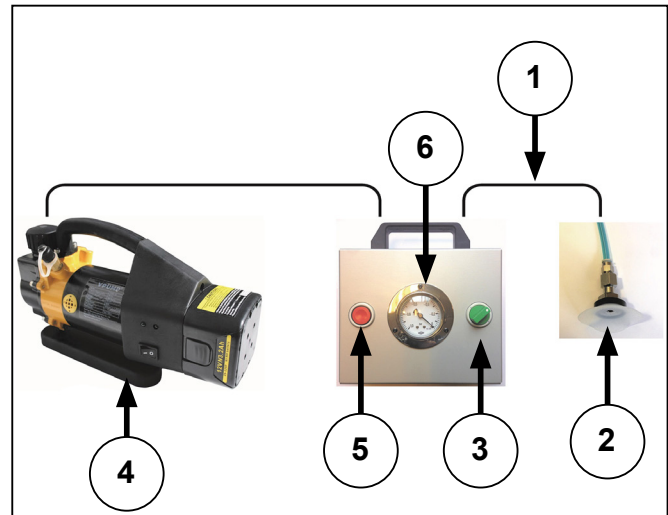

Figure 6: Checking for leaks
1. Push the fitting on the end of the hose (figure 6, 1) onto the correct pump adaptor for the product. See the table in "Pump adaptor" on page 3.
2. Locate the pressure relief valve (2) on the product and remove it.
5. Turn the green test/equalize button (figure 6, 3) to the TEST position.
6. Start the vacuum pump (figure 6, 4).
7. Press the red vacuum button (figure 6, 5) until the manometer (figure 6, 6) shows the correct vacuum level for the product. See the table in figure 8.
8. Release the red vacuum button (figure 6, 5).
9. Turn the green test/equalize button (figure 6, 3) gradually to the EQUALIZE position to allow air into the system.
10. Turn the green test/equalize button (figure 6, 3) back to the TEST position.
11. Press the red vacuum button (figure 6, 5) until you obtain the correct vacuum level.
12. Release the red vacuum button (figure 6, 5).
18. Turn off the vacuum pump (figure 6, 4).
19. Turn the green test/equalize button (figure 6, 3) to the EQUALIZE position and wait for the manometer to return to zero.